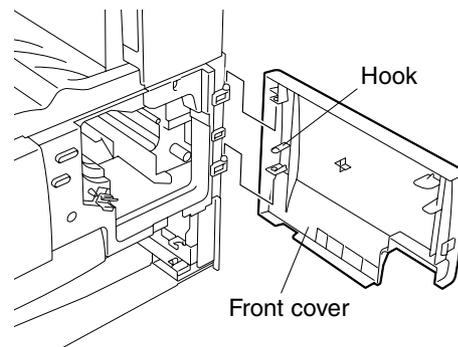

Fig. 2-6-23
11. Detach front cover. (See Fig. 2-6-23)